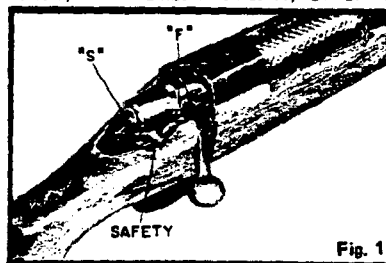

Fig. 1
**SAFETY (Fig. 1)** — To engage safety to **ON SAFE** position, rotate to rear stop position marked "S" on receiver. Bolt handle will be locked down and rifle will not fire. When rotated forward to fire position, marked "F" on receiver, safety will disengage. Trigger can be pulled to fire rifle or bolt handle raised to open action. **CAUTION:**